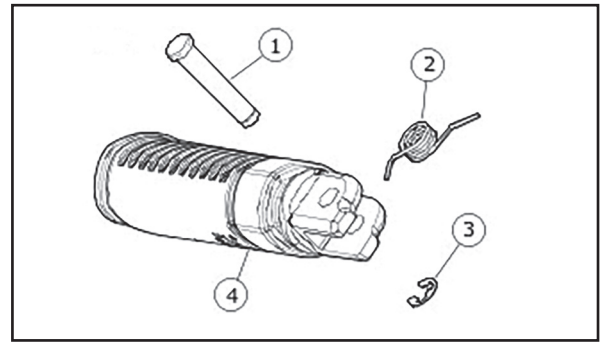

Figure 6. Rider Footpeg (Typical)
1. See Figure 6. Remove footpeg from foot support bracket. Retain footpeg, E-clip, clevis pin, and torsion spring for later use.